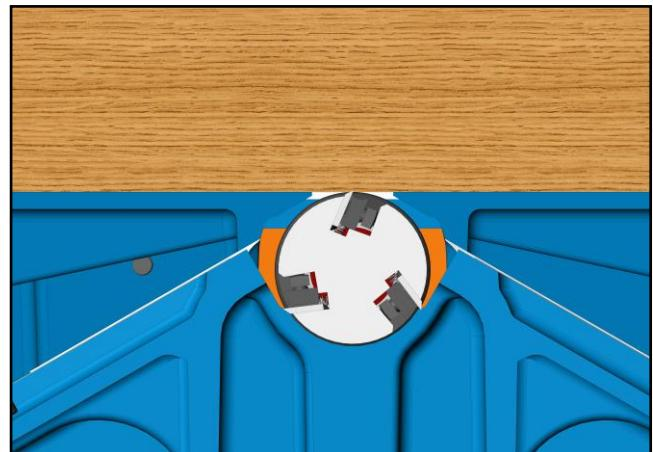

FIG. 16
2. Place a metal straightedge across both tables as shown in Fig. 16, and make sure both tables are set to the exact height of the high point of the knives.